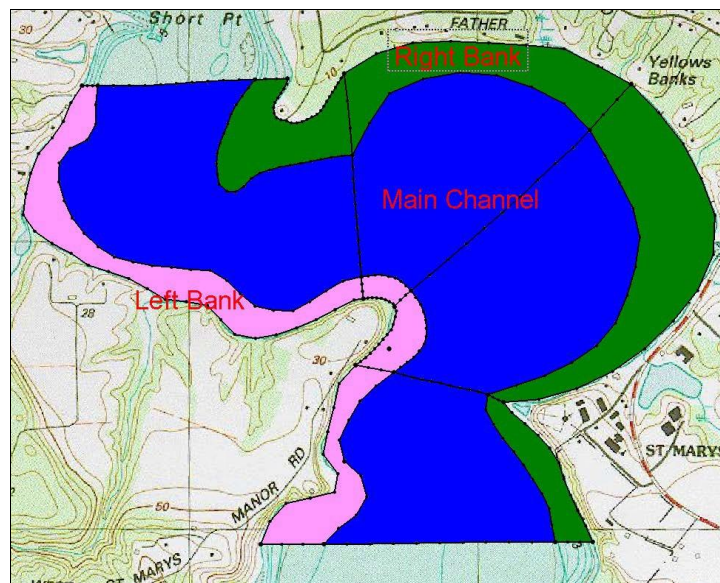

Figure 15 Polygons with defined material types
2. Hold down the *Shift* key and select all the polygons labeled “Left Bank” in Figure 15 below.